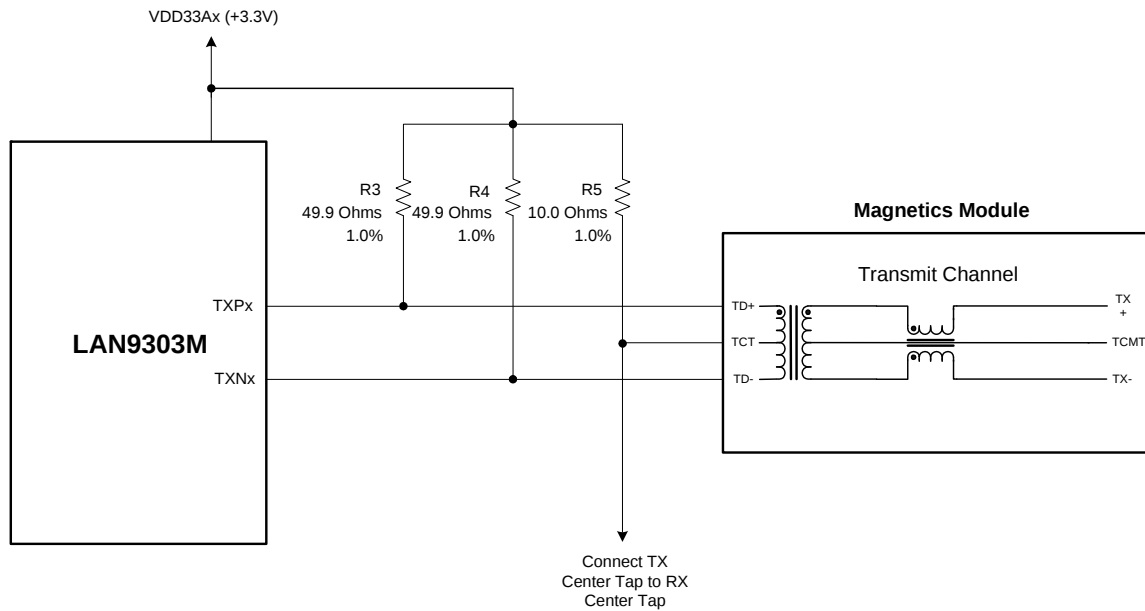

Figure 8 – Transmit Channel Connections and Terminations
3. For Transmit Channel connection and termination details, refer to Figure 8.